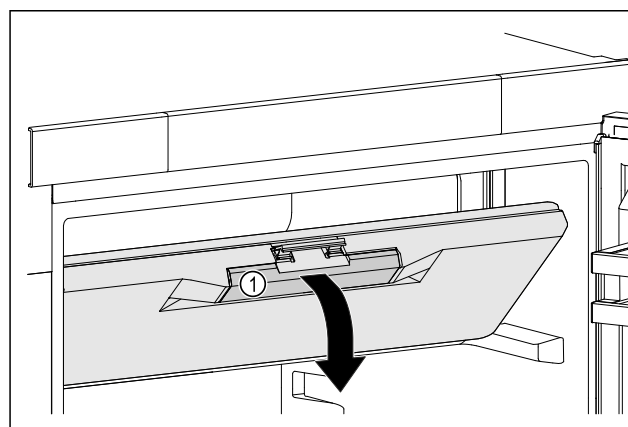

Fig. 45
- ▶ Hold the freezer compartment door by the recessed handle Fig. 45 (1).